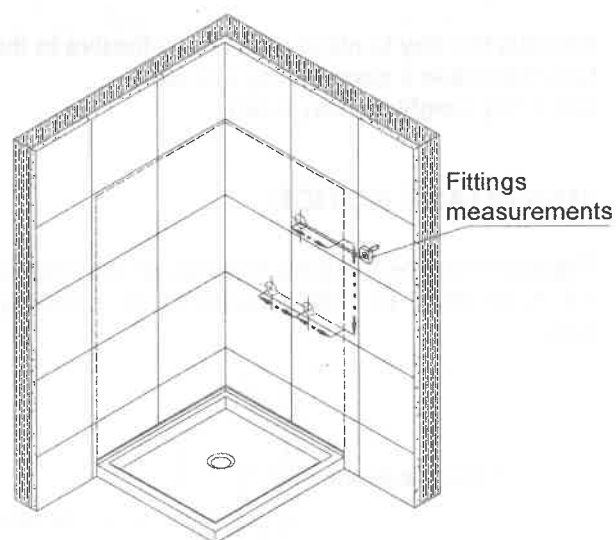

Fig5
4. Using the pencil line measure the position onto the lining of any fittings requiring holes to be made in the lining such as mixer / taps, shower rose. Fig5. Then make the correct sized holes in the lining to match your chosen fittings.